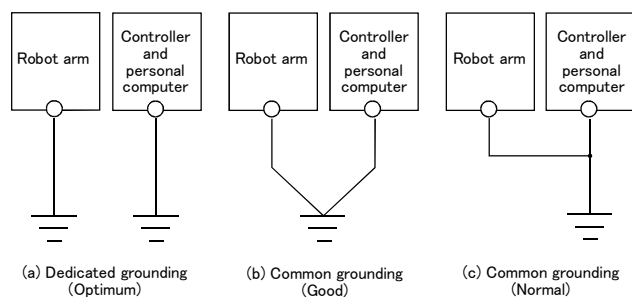

Fig.2-5 : Grounding methods
- 1) There are three grounding methods as shown in Fig. 2-5 (c), but the dedicated grounding (Fig. 2-5 (a)) should be used for the robot arm and controller when possible. (Refer to the separate "Controller Setup, Basic Operation and Maintenance" for details on the controller grounding.)